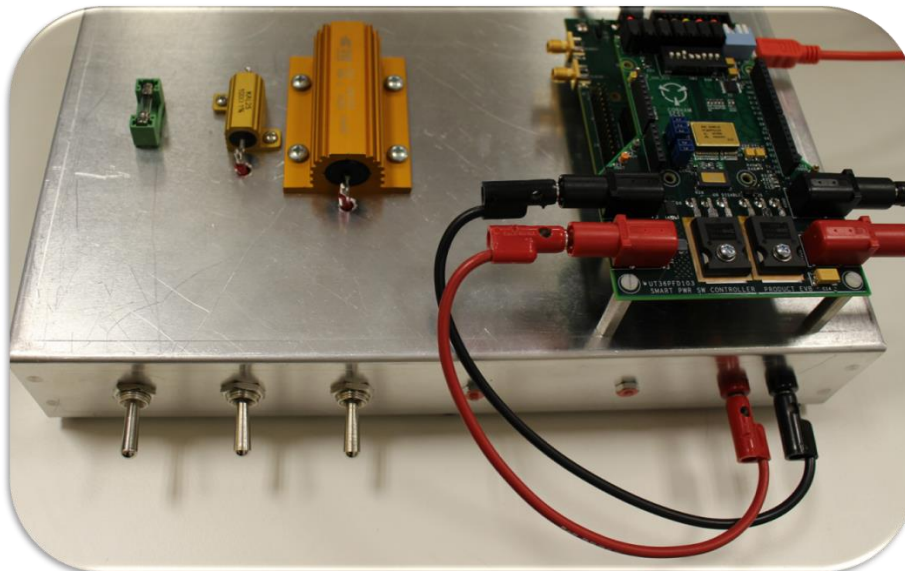

Figure 13: Connecting Target Load to the SPSC-EVB-R0 VOUT Port
Step 6) Connect the SPSC-EVB-R0 VOUT port to your desired load. Figure 13 depicts Cobham’s demonstration platform (not included in SPSC-EVB-R0 evaluation kit) with VOUT (RED) and return (BLACK) patched from the SPSC-EVB-R0 VOUT port into the load fixture where it is then switched into 1-to-3 loads via toggle switches.